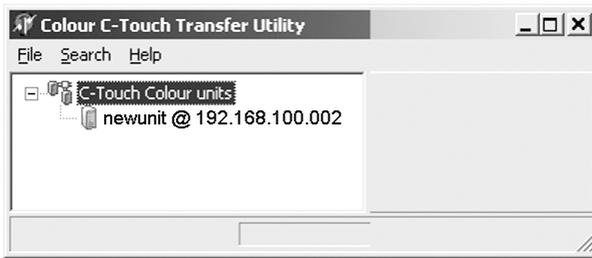

Figure 21. List of touch screens located by the search
10. You will now see the touch screen unit listed in the transfer utility (see Figure 21).